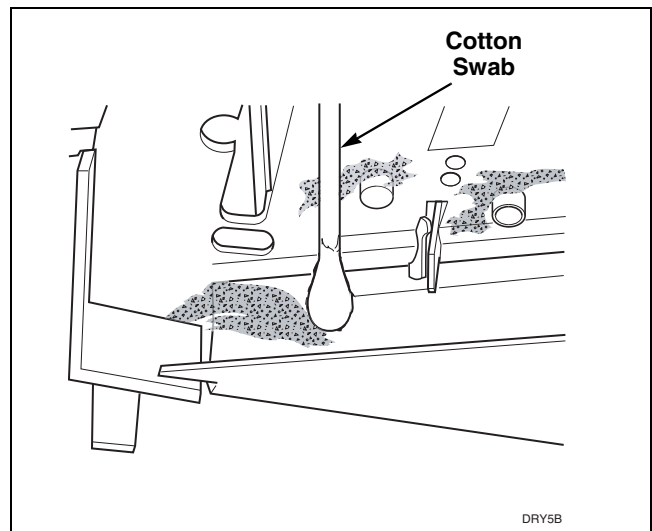

Figure 20
- h. Check coin path in coin drop for lint and residue. If lint or light residues are present, use a cotton swab to remove. If heavy residue is present, it may be necessary to first scrape off excessive residue and then use a cotton swab dipped in water or isopropyl alcohol (rubbing alcohol) to remove remainder of residue. Refer to *Figure 20*.